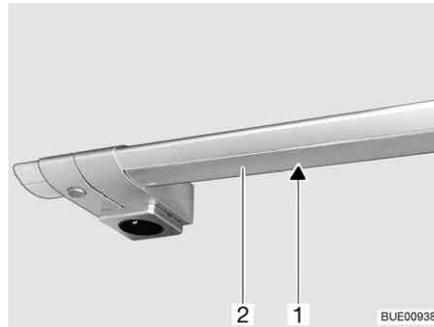

Fig. 224 Cooker lamp
- Squeeze cover (Fig. 224,2) lightly with both hands and pull downwards. Always start pulling at the very left or right end.
- Remove halogen bulb (Fig. 224,1).